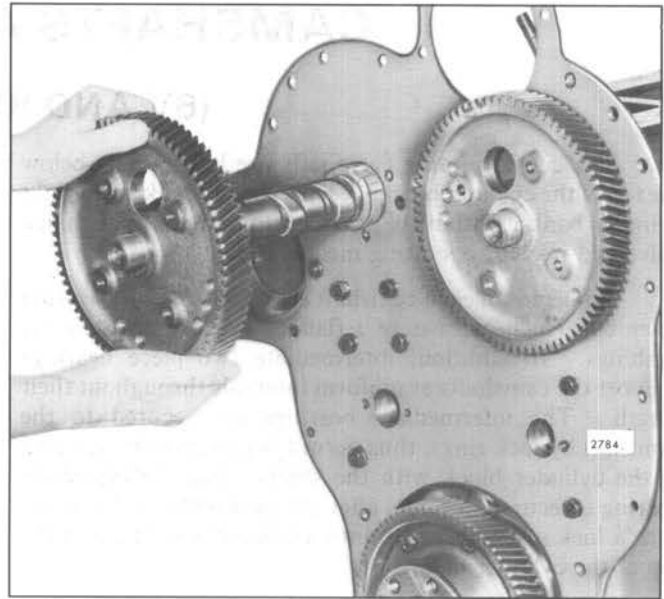

Fig. 5 - Removing or Installing Camshaft Assembly
17. Withdraw each camshaft, bearing and gear assembly from the cylinder block (Fig. 5).